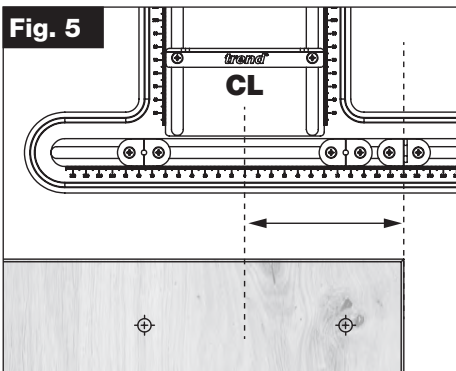

Fig. 6
- Tighten the Short Guide M4 Machine Screws (Fig. 6).